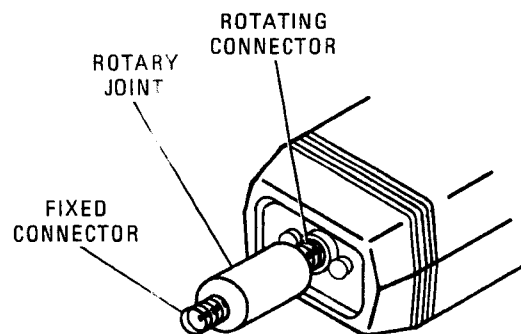

Figure 17. RF Rotary Joint Mounted on Probe (Option 001)
3. Screw the rotating end of the rotary joint clockwise into the probe's SMA connector (see figure 17).